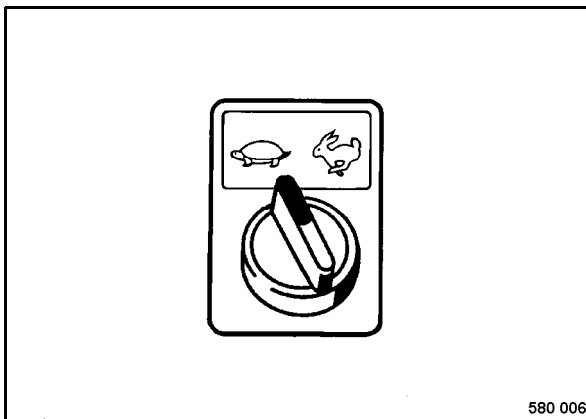

Fig. 35
- Select the desired travel speed range (Fig. 35).